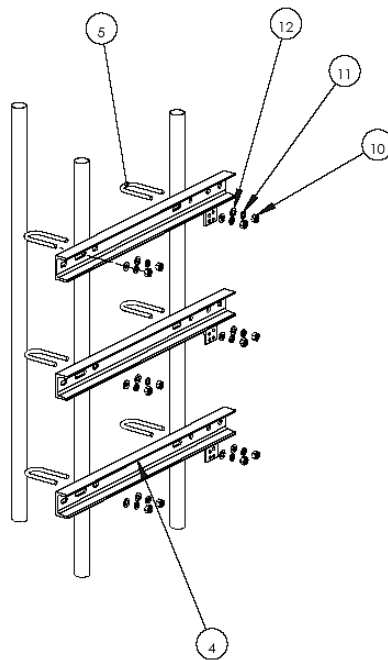

Figure C-31: Installing Clamps on a Mast
- 3 Use the U bolts, washers, spring washers and nuts as listed in Table C-15 to install the clamps in the positions marked as shown in Figure C-31.